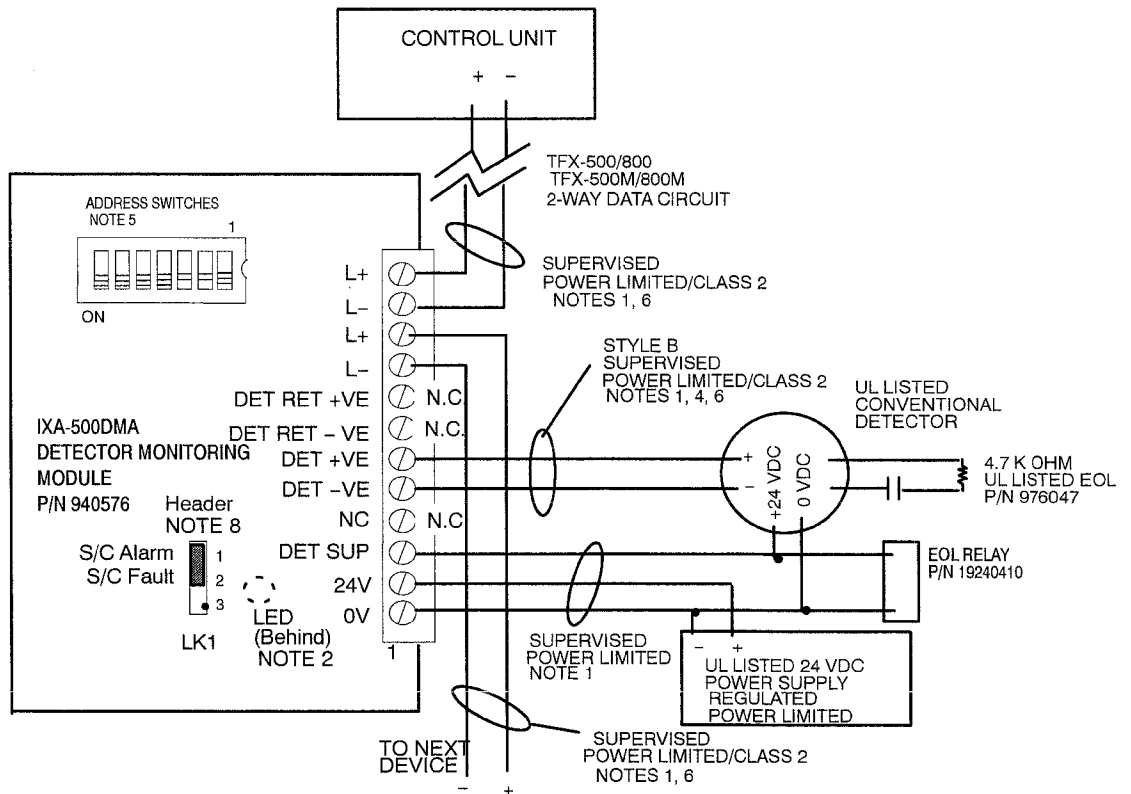

Figure 4 Typical 4-Wire Conventional Detector Circuit, Style B
9. Four-wire detector circuit requires UL listed end-of-line relay P/N 19240410. See Figure 4.